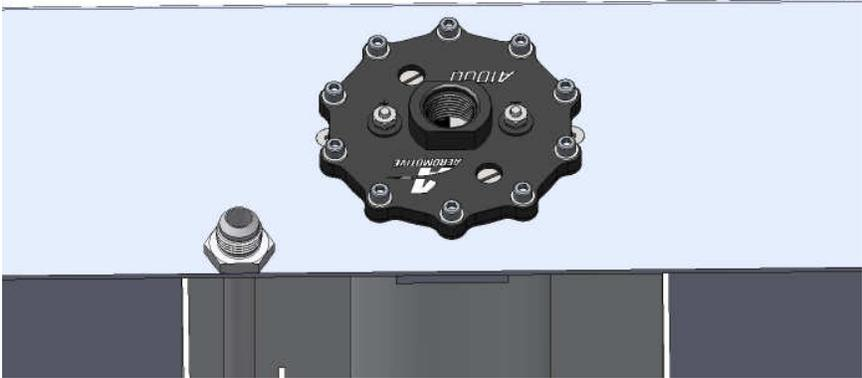

FIGURE 1-8
10. With the pump inserted into the tank, take the supplied socket head cap screws and washers and tighten them down. Do not over tighten as it will break or damage the washers. The finished product should look like **figure 1-8**.